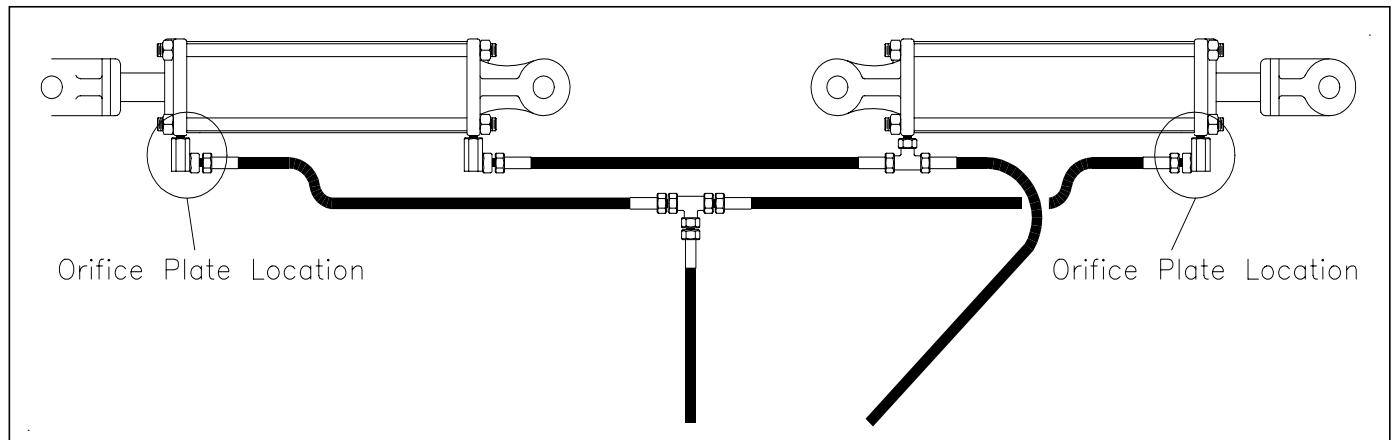

Figure 8
**Note:** If the wing fold cylinders do not operate properly, clean out the small hole in the elbow fitting on fold cylinders. These orifice are located in the cylinder elbow as circled in Figure 8.